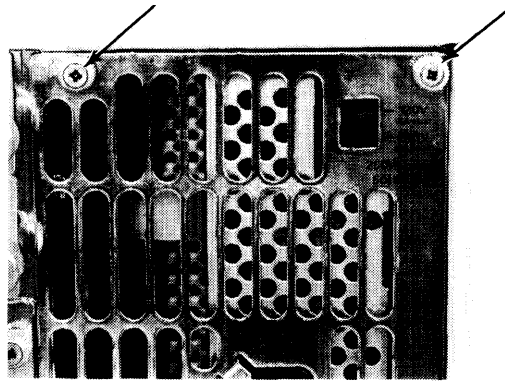

Figure 2-3. Power Supply Access Cover Screws
1. Using a #1 Pozidriv® screwdriver, unscrew the two screws holding the power supply access cover in place. Refer to Figure 2-3.
3. Using a #2 Pozidriv® screwdriver, unscrew the screw holding the power supply in place. Refer to Figure 2-3.